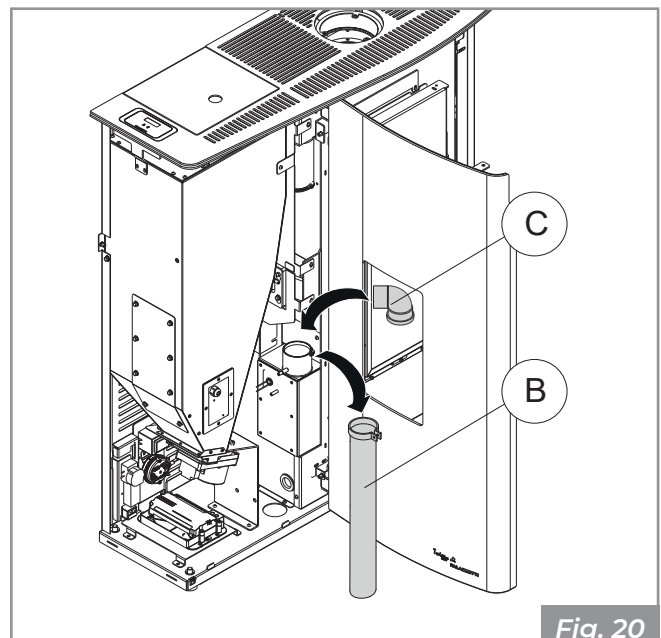

Fig. 20
- Remove the combustion air connection hose (**B**) and insert the 90° bend (**C**) supplied in its place (**Fig. 20**).